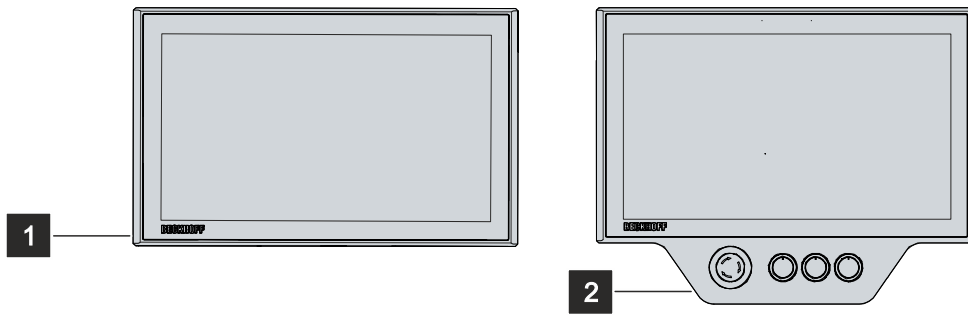

Fig. 1: Without and with push button extension
For explanations of the push button extension and the functions, refer to the manual C9900-G05x. Figure 1 shows an example of a panel PC without (1) and with (2) push button extension.